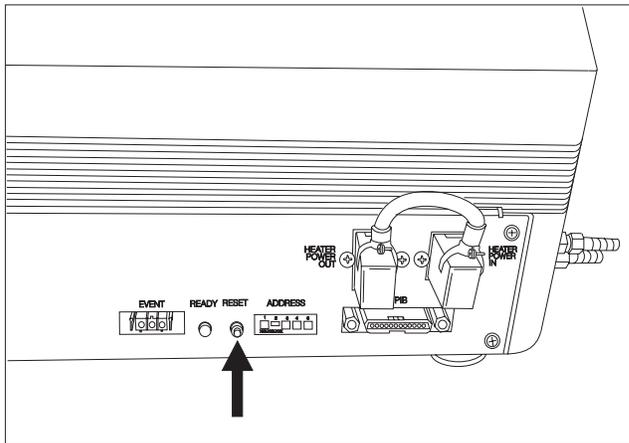

Figure 6.2
- If the Autosampler is already on, press the reset switch on its back panel to restart the confidence tests (see Figure 6.2).